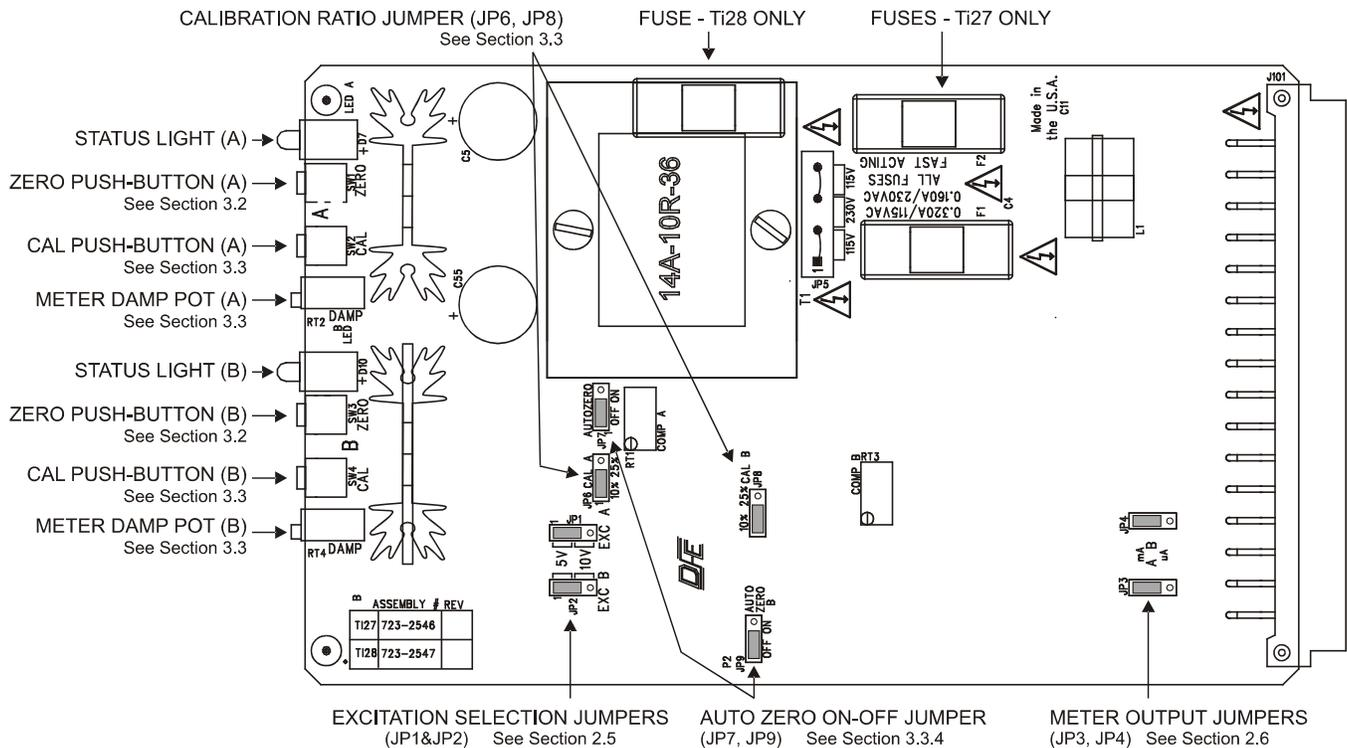

Figure 9 - TWINAMP SHOWING CAL, ZERO, and JUMPER LOCATIONS
3. **METER DAMPING:** If the optional analog meter is used, adjust the MTR DAMP potentiometer while the machine is running to minimize needle movement. Damping only affects the 0-1mA meter output and not the 0-10Vdc or 4-20mA isolated outputs. (See Fig. 9). A and B Damping is set independently.
4. **AUTO-ZERO:** If you want the unit to automatically re-zero every time power is applied, move jumper JP7 (A amp) and/or JP9 (B amp) to pins 2-3 (Auto-Zero ON). The default is Auto-Zero OFF (JP7 Pins 1-2 and JP9 pins 1-2). (See Fig. 9).